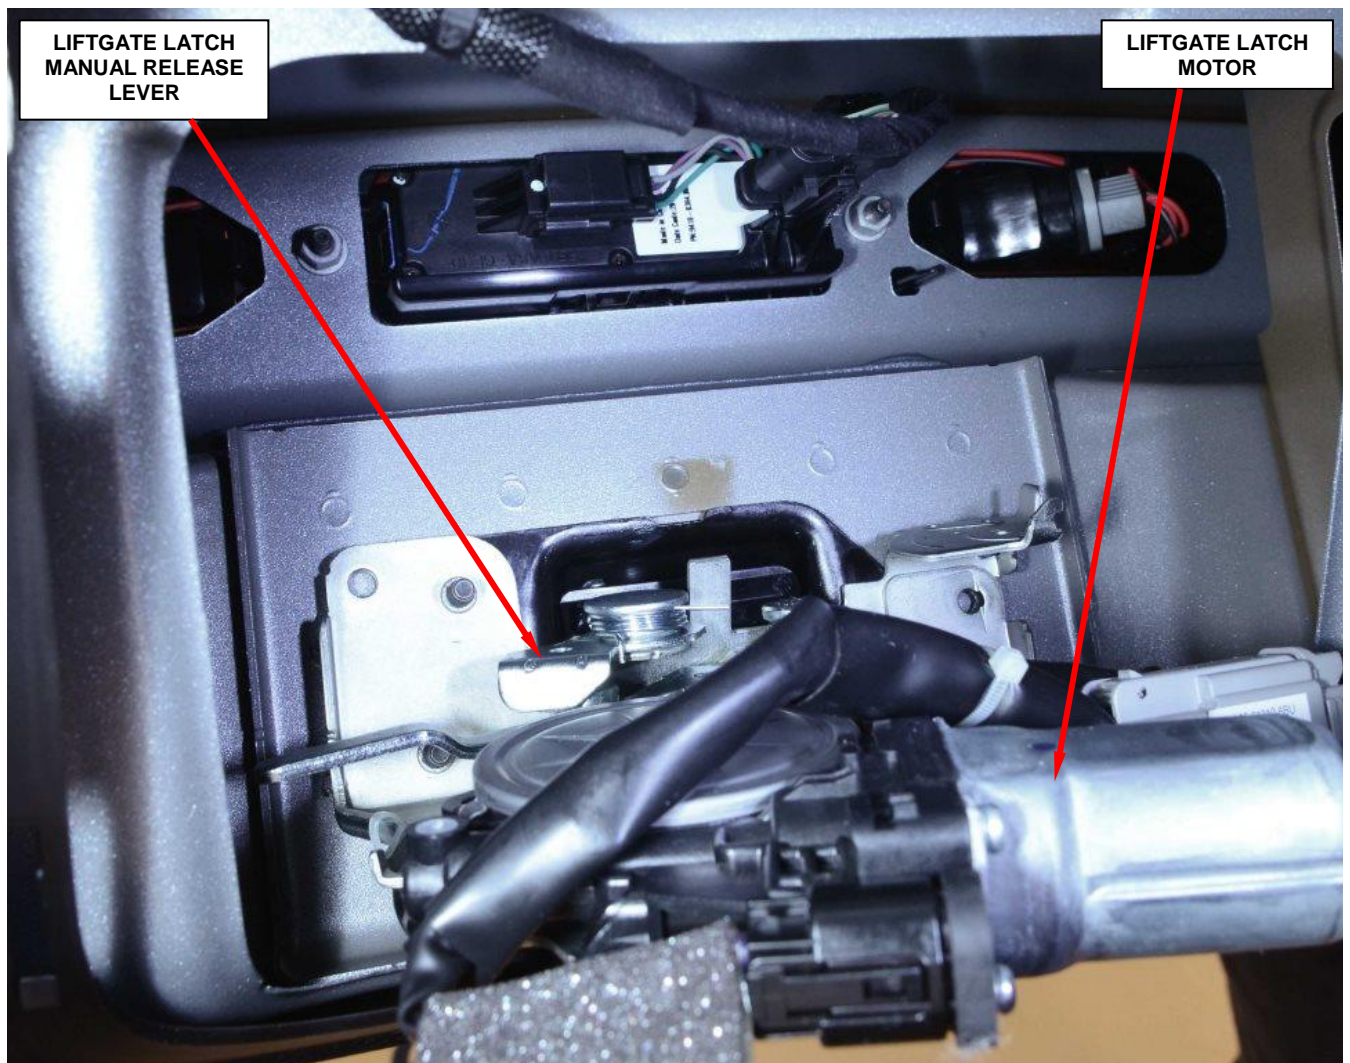

Figure 2 – Latch Release Lever (Looking into Liftgate Opening)
5. Pull on the short latch release lever to disengage the liftgate latch and manually open the liftgate (Figure 2).